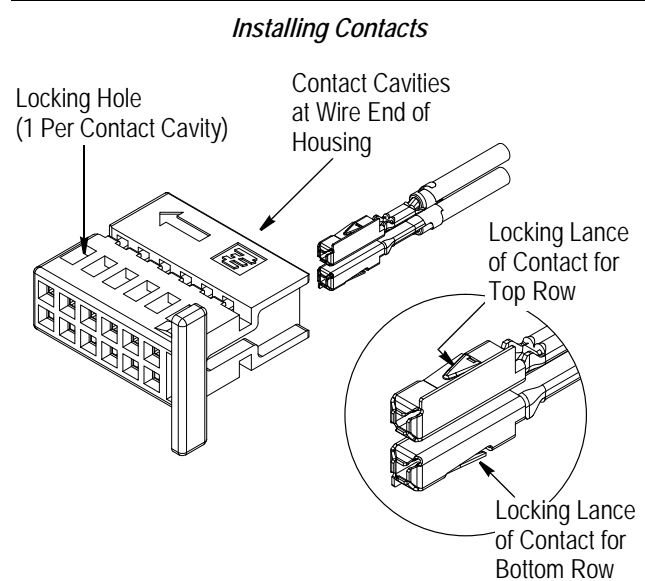

Figure 2
1. From the wire end of the housing, align the contact with the contact cavity, making sure that the locking lance is oriented properly as shown in Figure 2.